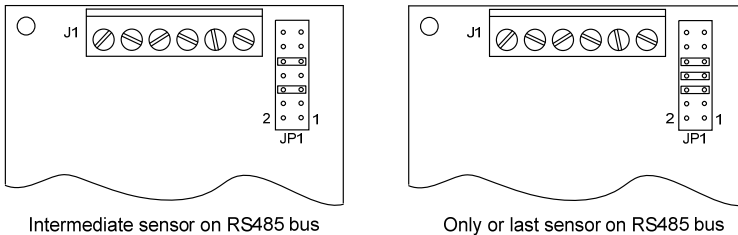

Figure 4: RS485 termination
4. Determine the RS485 bus termination configuration by checking the positions of the jumpers on JP1 on the board (Figure 4):